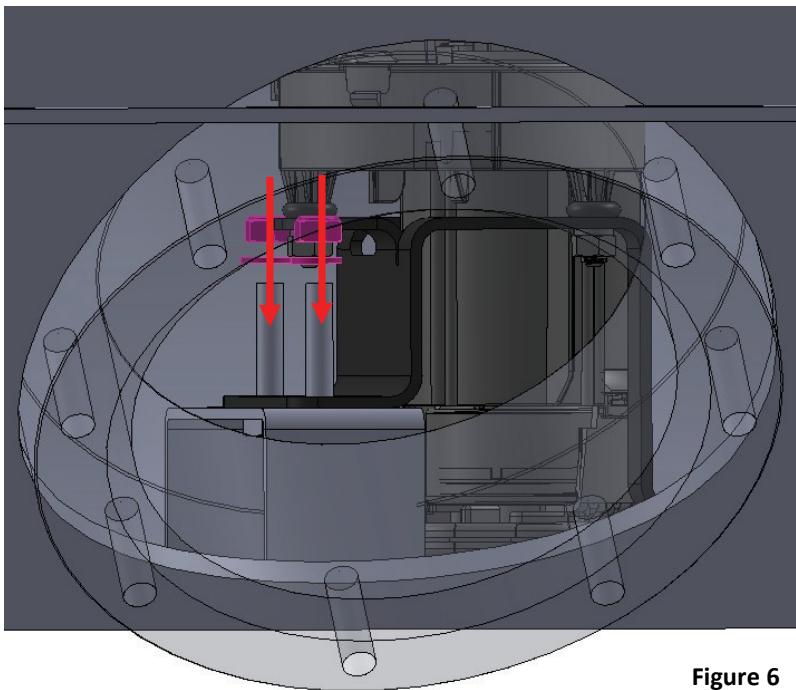

Figure 6
5. Install nuts (Qty 2) and washers (Qty 2) to fuel pump hold down bracket posts. (**Torque: FSNS - Fully seated not stripped**) (Figure 6)